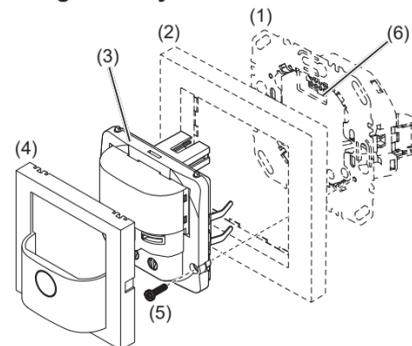

Fig. 1: Design and layout of the device
**Assembly of the device (Figure 1)**